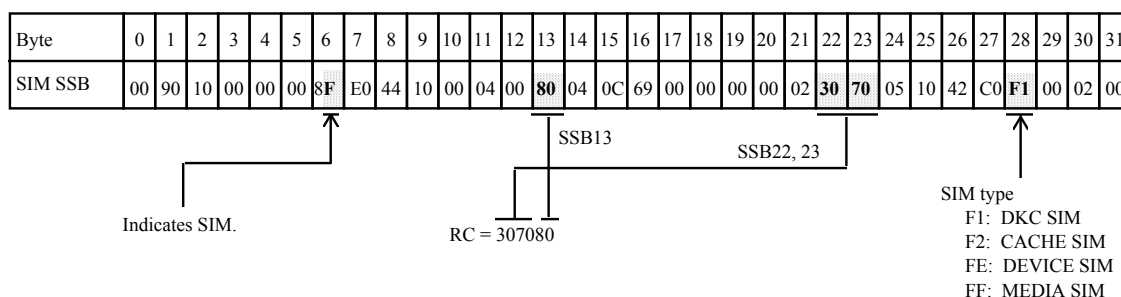

Figure 4-1 Typical SIM Showing Reference Code and SIM Type
Figure 4-1 illustrates a typical 32-byte SIM from the USP V/VM. SIMs are displayed by reference code (RC) and severity. The six-digit RC, which is composed of bytes 22, 23, and 13, identifies the possible error and determines the severity. The SIM type, located in byte 28, indicates which component experienced the error.